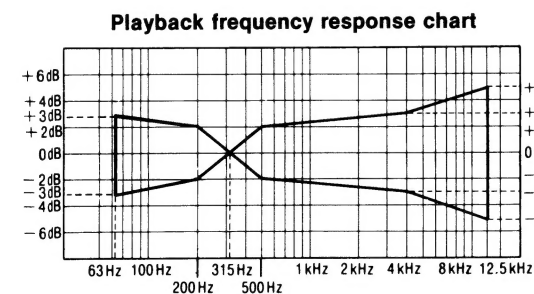

Fig. 1
2. Check that the frequency is within the range shown in Fig.1 for both L-CH and R-CH. (See page 9.)